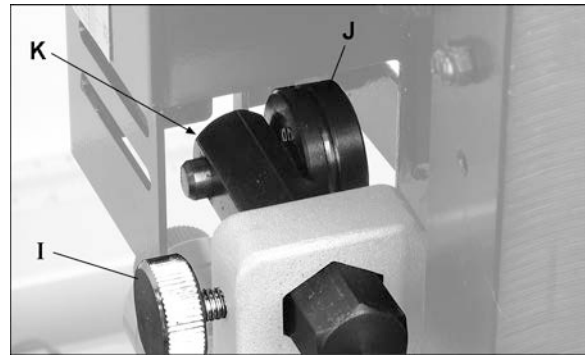
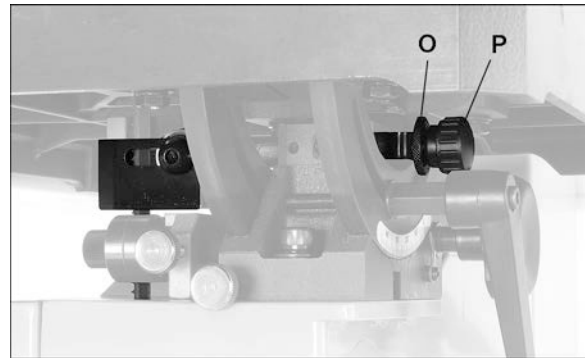

Fig 40
Fig 42
Adjust the back guide roller with the adjust screw (P) so that the distance to the saw blade is 1mm (Fig 40~Fig 42).